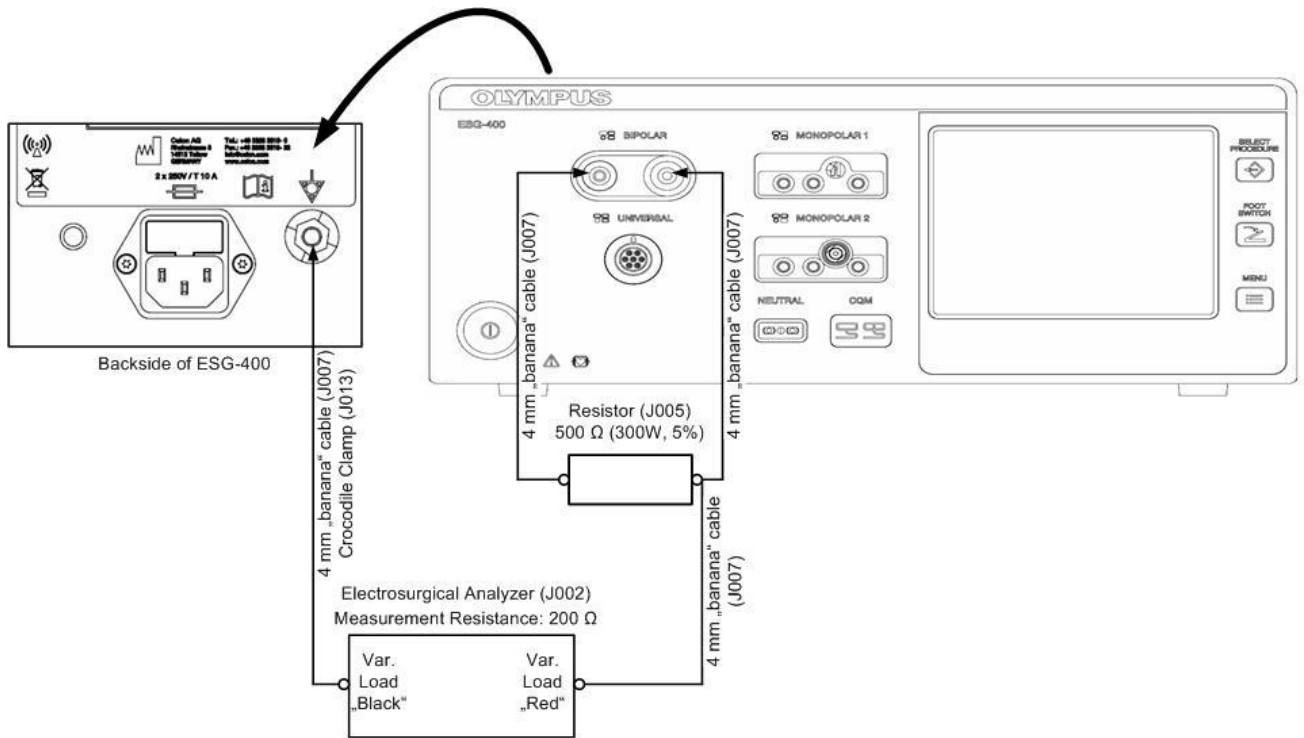
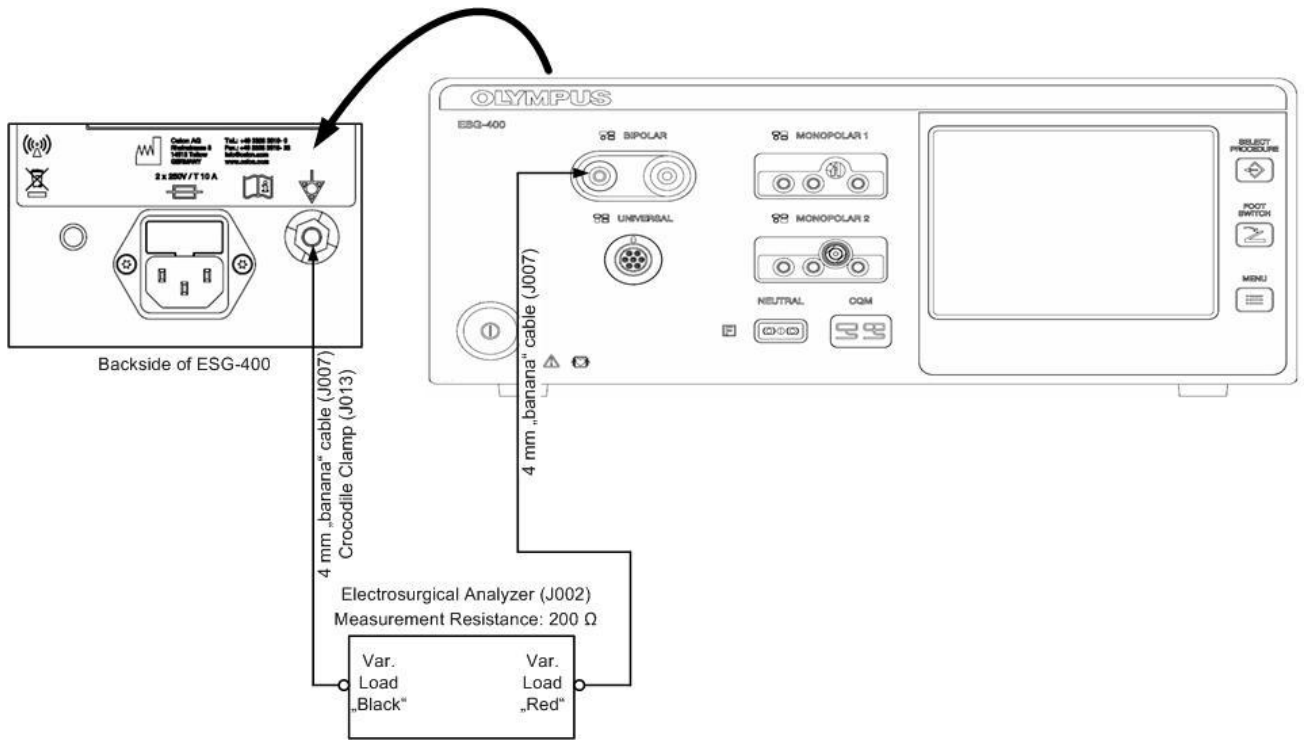

Fig. 5.2.8. Example for the loaded measurement of the bipolar high frequency leakage current at terminal 2
Fig. 5.2.9. Example for the unloaded measurement of the bipolar high frequency leakage current at terminal 1
Fig. 5.2.8 and Fig. 5.2.9 are showing an example how to set up the test to measure the bipolar high frequency leakage current under loaded condition. The load resistor $R_L = 500 \Omega$ (J005) is connected via the connection cables (J007, banana) with both BIPOLAR receptacles. The high frequency leakage current is floating from appropriate pole to the equipotential bonding port. It is measured via the electrosurgical analyzer via a measuring resistance of 200Ω . Fig. 5.2.8 shows the measurement from terminal 1; Fig. 5.2.9 shows the measurement from terminal 2.
- 2) Set up the measurement according to Fig. 5.2.8 (Measuring of the high frequency leakage current under loaded condition at terminal 1.)
- 5) Set up the measurement according to Fig. 5.2.9 (Measuring of the high frequency leakage current under loaded condition at terminal 2.)